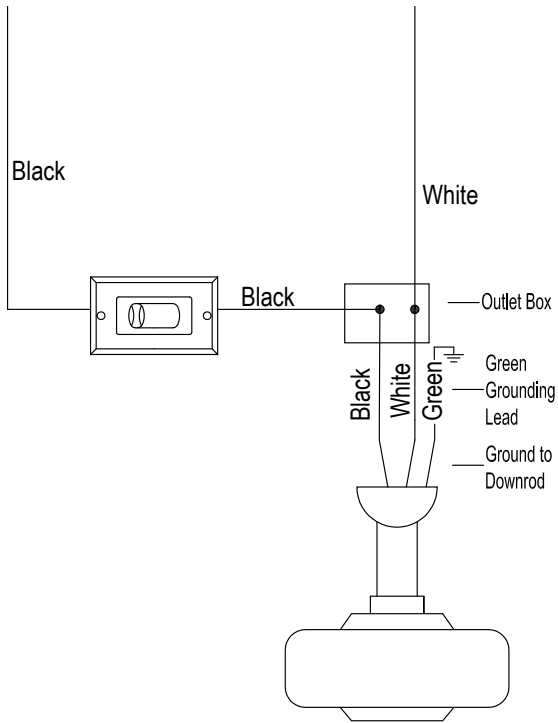

Fig. 7
**Step 5.** Turn the wire connecting nuts upward, and carefully push the wiring into the outlet box. (Fig. 7)